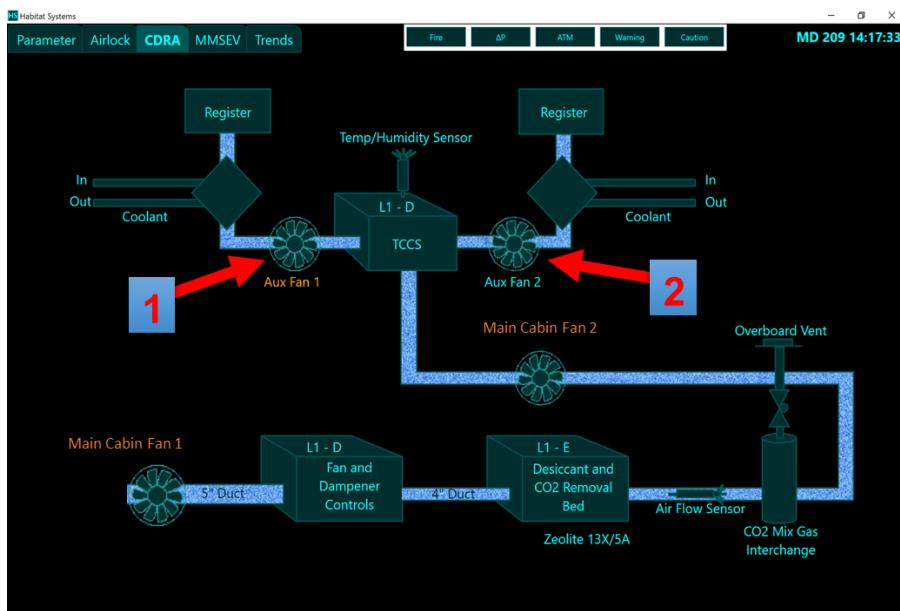

Figure 3: CDRA Assembly: Aux Cabin Fan Power Switches
- 2.2 On HSS CDRA display, touch Aux Cabin Fan 1 icon to deactivate fan (see Figure 3).
- 2.3 On HSS CDRA display, touch Aux Cabin Fan 2 icon to deactivate fans (see Figure 3).
- 3.7 Confirm Dampener Dial Indicator (metal Philips head screw with spring attached) rotates to fully closed (see Figure 3).